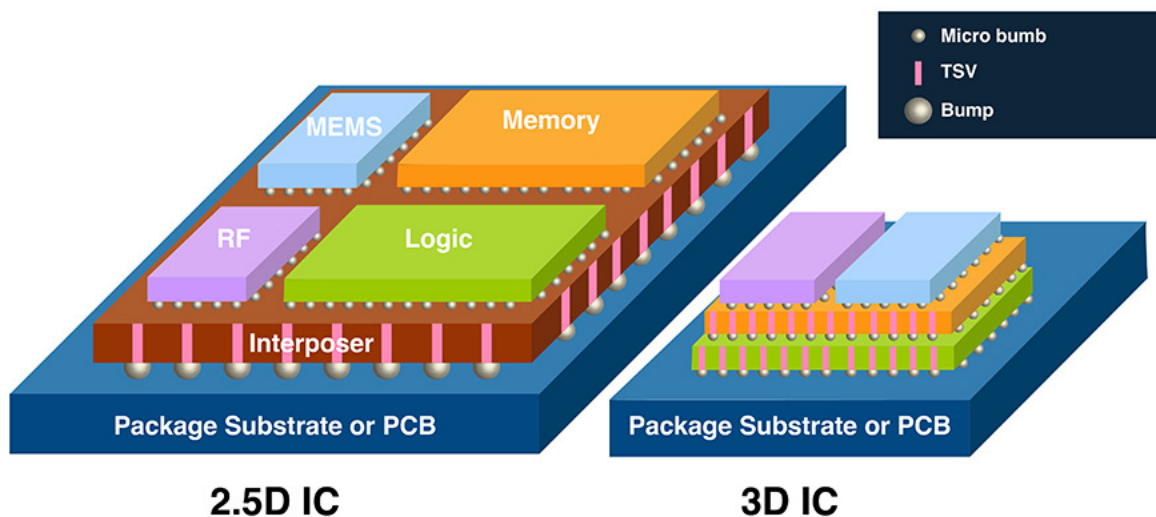

Figure 2. Examples of 2.5-D packaging and 3-D packaging.
2.5-D packaging involves stacking multiple dies or chips on an interposer, which in turn is bonded onto a substrate. 3-D packaging takes miniaturization further by vertically stacking multiple layers of components on a package substrate (Figure 2). These advanced packaging technologies increase functionality while enabling a smaller device footprint. HDI PCB fabrication technology is needed to create the multilayer boards with intricate electrical connection paths that link 2.5-D and 3-D semiconductor packages, and together these technologies have enabled many of the consumer electronics we enjoy today.